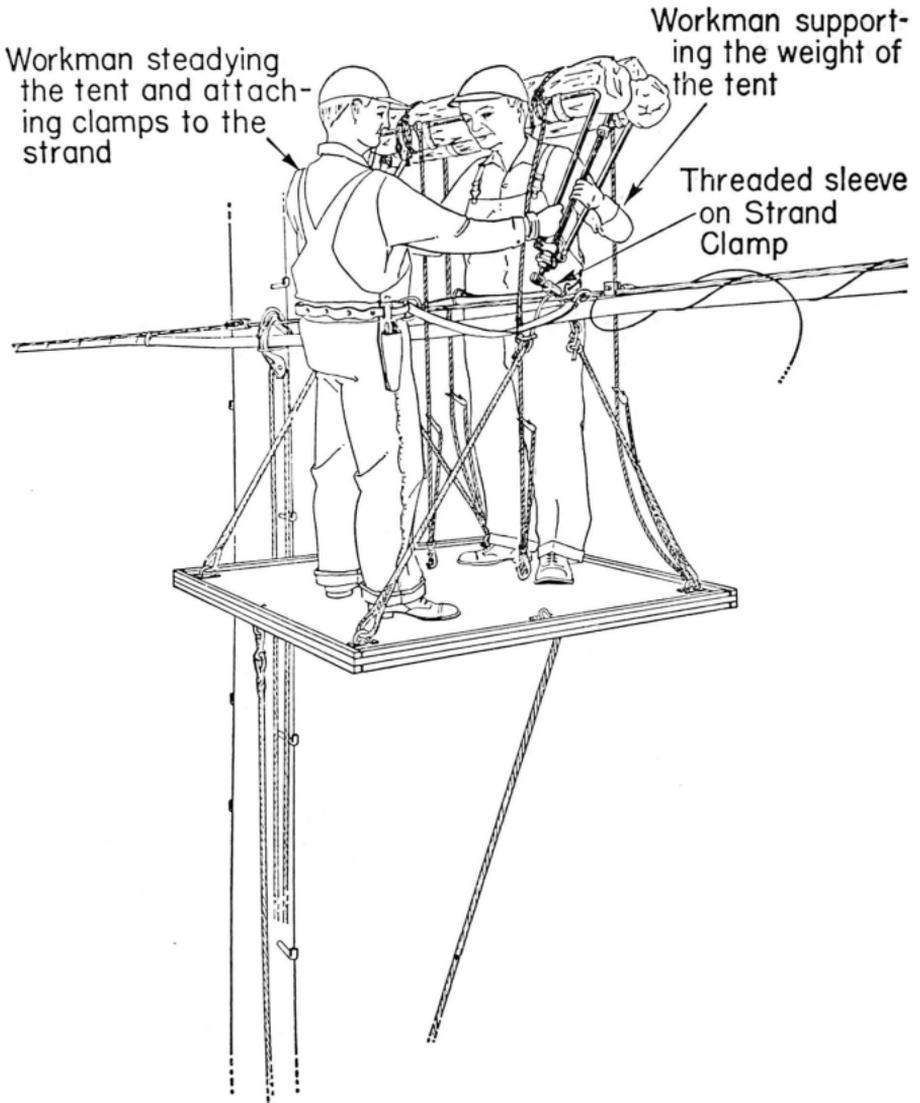

Fig. 5
4.03 Raise the tent into position on the strand, engage the clamps, and tighten the threaded sleeves. Engage the two guy rope snap hooks (on the side opposite the threaded sleeves) in their respective platform support rope U bolts, and loosely tension these two guy ropes. Fig. 5 illustrates the tent at this time.